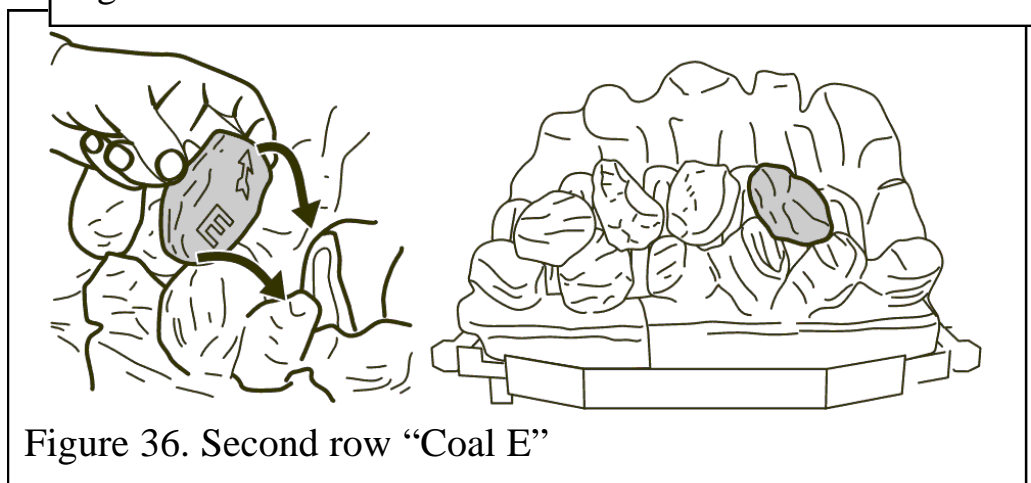

Figure 36. Second row "Coal E"
9. Hold coal 'E' upright with the arrow pointing to the top. Locate coal 'E' as shown in figure 36.